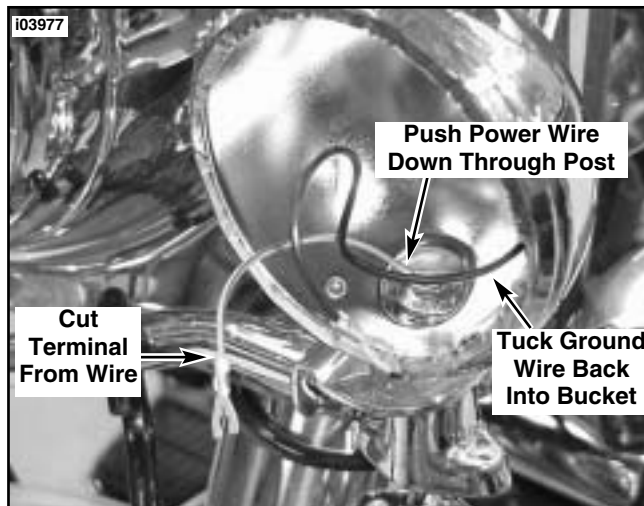

Figure 3. Modify Existing Wiring
6. See Figure 3. Locate the spotlight power wire and cleanly cut the terminal end off of wire. The spotlight power wire will vary in color according to the left and right lamps and the model. Note the following: